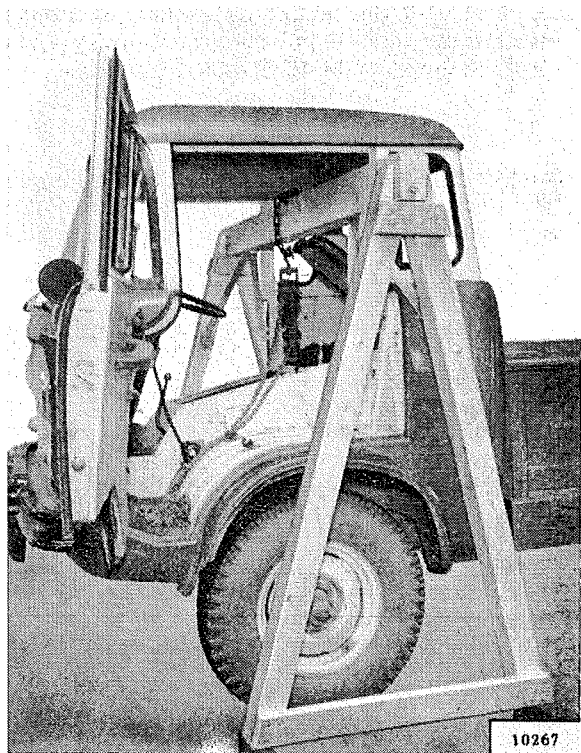

FIG. 13—A-FRAME USED TO REMOVE ENGINE
r. Attach a lifting bracket to the engine using head studs. Use stud pairs at each end of the engine. Using a single arm crane or the A-frame and chain fall combination as shown in Fig. 13 and 14, attach the crane hook or chain fall to the bracket.